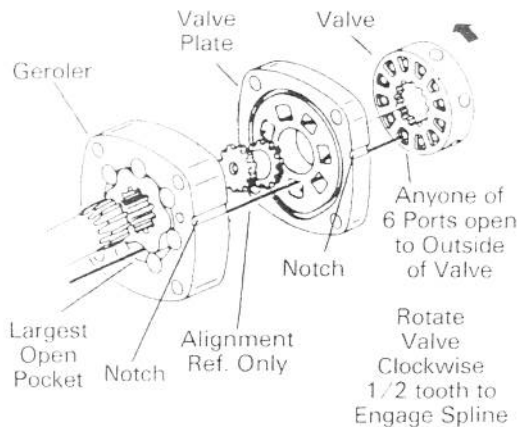

Figure 100
Timing Step #1 — Locate the largest open pocket in the Geroler and mark it on the outside edge of the Geroler (Fig. 100).
14. Align the notch on the outside of the valve plate with the notch on the Geroler as shown in Fig. 100.